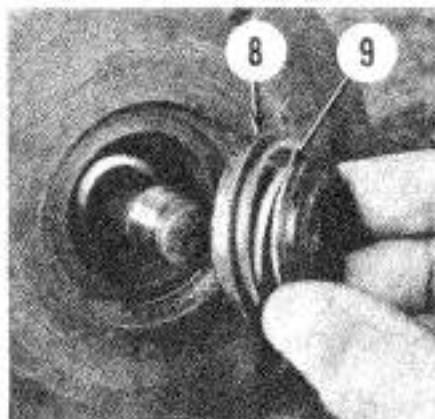
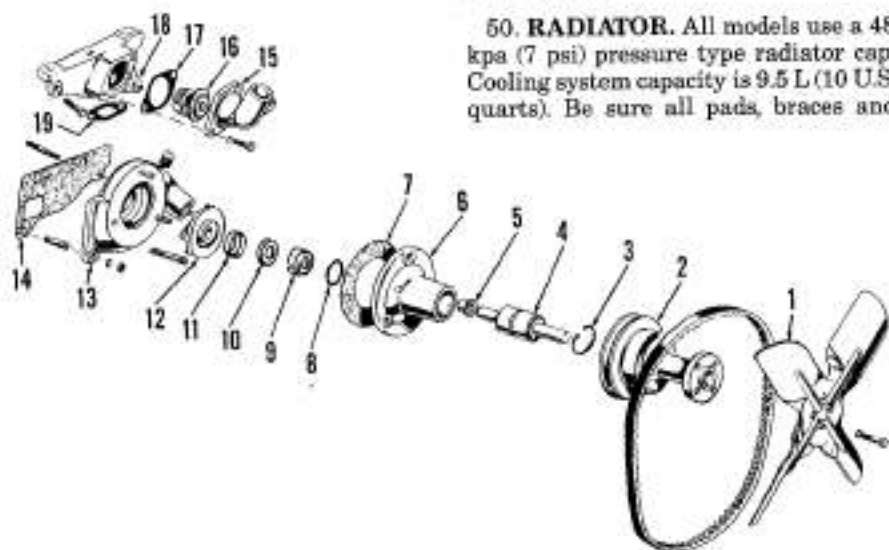

Fig. 52—The gasket (8) should be in position around seal as shown when installing the spring seal (9).
Fig. 51—Exploded view of water pump assembly used on gasoline models.
Remove pulley (2—Fig. 51) using a puller attached to fan mounting hub. Remove snap ring (3), then press shaft and bearing (4) toward front out of impeller (12) and pump body (6).
To assemble, install slinger (5) onto short end of shaft (4), then press the shaft and bearing assembly into body (6) until bearing bottoms in bore. Install snap ring (3). Coat outside of seal (9) with sealing compound, position gasket (8) around seal, then install in housing with carbon face toward impeller as shown in Fig. 52. Install the rubber collar retainer (11—Fig. 51) in bore of impeller (12), then insert ceramic collar (10) as shown in Fig. 53. Be sure side with three holes is toward impeller. Press impeller onto shaft with open side of blades out until